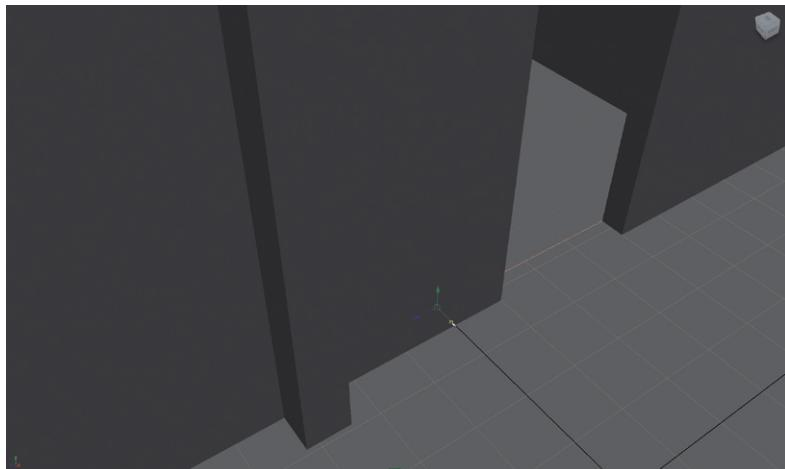

FIG 3.34 With a quick Snap to Vertex, we can clean up holes to make objects match perfectly.
Step 49: Adjust the hall floor by moving the edges, so that they close the gap between the hall and the rooms (Fig. 3.34).